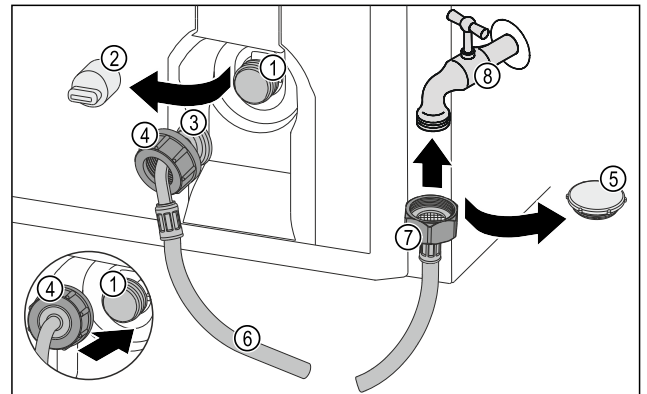

Fig. 23
- ▶ Remove the closure cap Fig. 23 (5).
- ▶ Place the straight end of the hose Fig. 23 (7) on the tap Fig. 23 (8).
- ▶ Tighten the nut at the straight end of the hose Fig. 23 (7) in a clockwise direction.